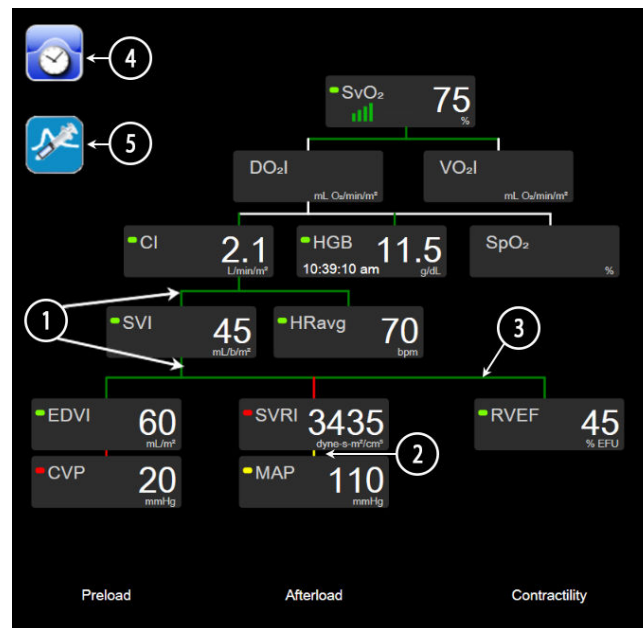

Figure 5-14: Physio relationship screen while monitoring with HemoSphere Swan-Ganz module
2. Vertical lines that directly connect two parameters will appear in the same color as the parameter lantern below (for example, between SVRI and MAP in Figure 5-14 on page 111).
4. The left bar appears after a bolus set is performed. Touch the clock/waveform icon to display historical data when available (see Figure 5-14 on page 111).
The example shown in Figure 5-14 on page 111 is while monitoring with a HemoSphere Swan-Ganz module. Differences in appearance and parameters will occur with other monitoring modes. For example, while monitoring within minimally-invasive monitoring mode, HRavg is replaced by PR, PPV and SVV appear (if configured), and EDV and RVEF are not shown.